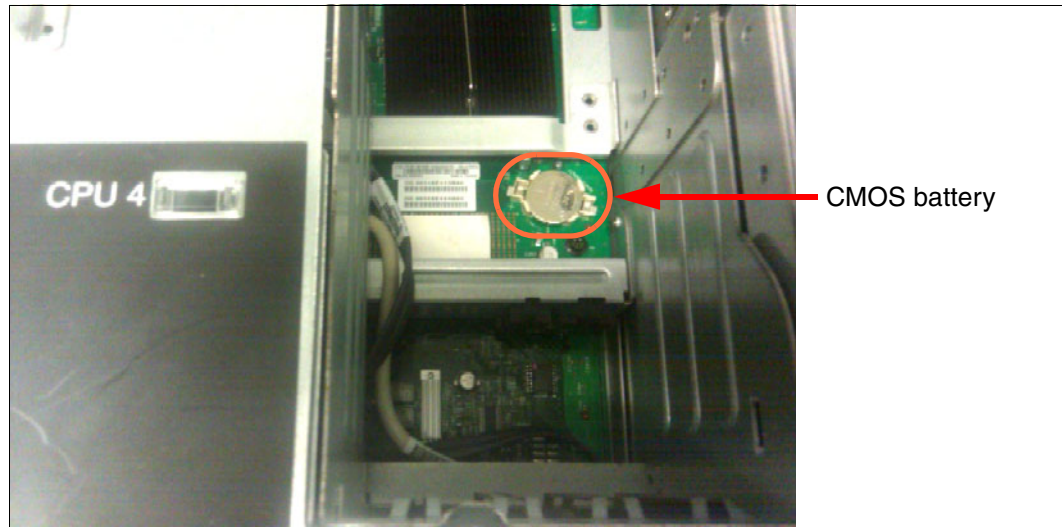

Figure 6-1 CMOS battery location
2. Locate the CMOS battery on the right side of the server, behind the disk fans, to the right of processor 4. See Figure 6-1 on page 221.
5. Push the battery back into the socket with your finger and it clips back into place, as shown in Figure 6-1.